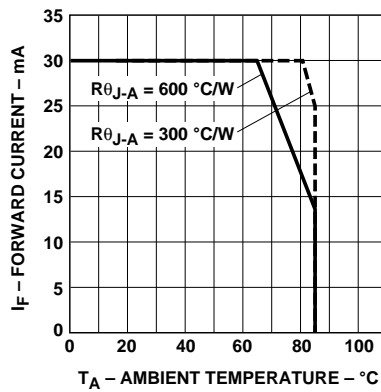

Figure 4. Maximum Forward Current vs. Ambient Temperature.
- Derate linearly as shown in Figure 4.